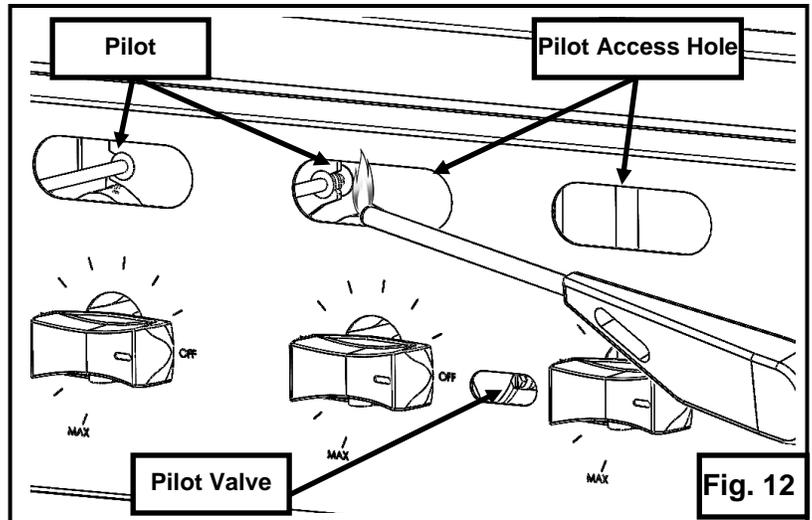

Fig. 12
3. Light each pilot using an outside ignition source. Pass the ignition source through the pilot access hole in the front panel and ignite the pilot (Fig. 12). The end of the ignition source will need to be at least 7" long so it can extend past the front panel to reach the pilot inside.